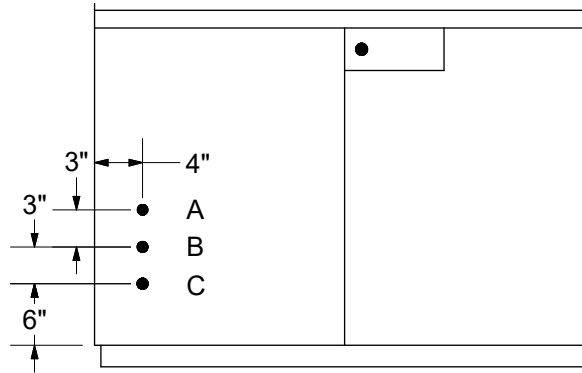

Figure 1
1. Drill three 5/16" holes in the lower (hinged) corner of the outgoing switch compartment door. The holes should be positioned as shown in Figure 1.
2. Directly beside each hole apply a high intensity reflective 1-3/4" x 2-7/8" letter for phase identification. The top hole will be marked with "A" (Stock #16 04 317), the middle hole with "B" (Stock #16 04 318), and the bottom hole with "C" (Stock #16 04 319) as shown in Figure 1.